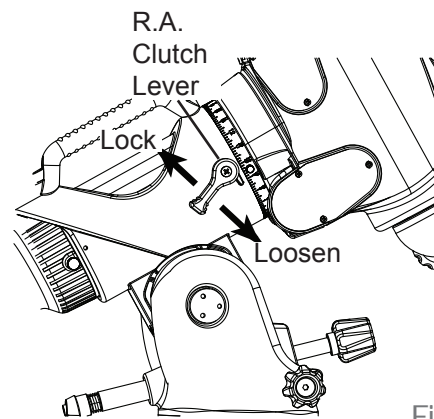

Fig. 1.4b
2. Loosen the R.A. clutch with the lever, and rotate the R.A. Axis until the counterweight rod is pointing towards the ground. (Fig. 1.4b)